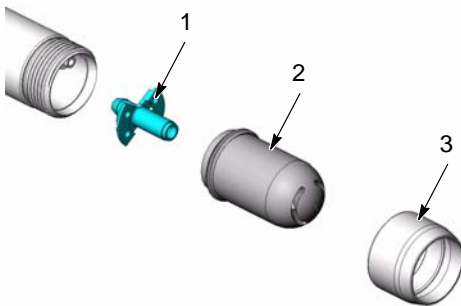

Figure 1 Remove the Nozzle and Retaining Ring
2. See Figure 1. Unscrew the retaining nut (3) and nozzle (2) assembly from the spray gun.
3. Pull the tubing adapter (1) from the powder tube.
- See Figure 1. Install the tubing adapter (1) into the powder tubing.